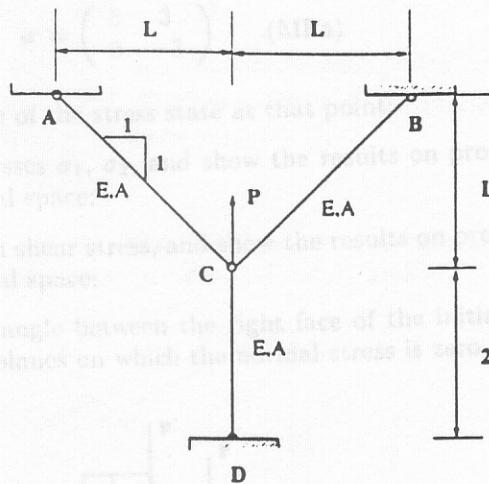

Figure 1: Schematic illustration of problem 1
A pin-jointed 3-bar structure is shown in the Figure 1. There is an external force,  $P$ , acting on the point C. (1) find internal axial forces for bar AC, BC, and CD; (2) find the vertical displacement as well as horizontal displacement at nodal point C.